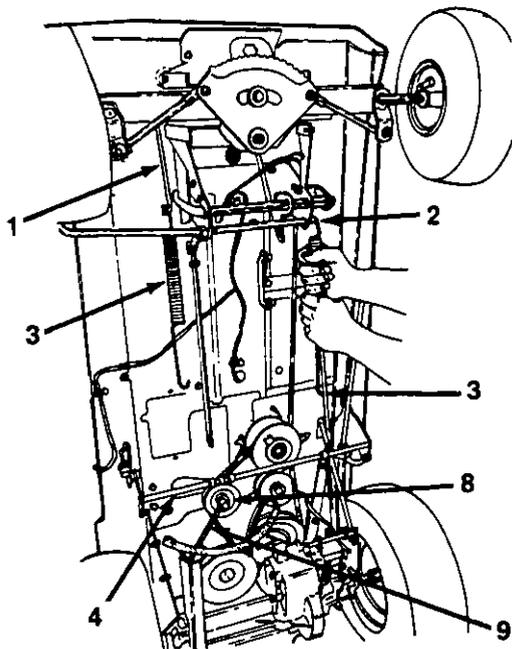

FIGURE 2.
3. Remove one hex lock nut at idler pulley and unhook extension spring from idler. See figure 2.